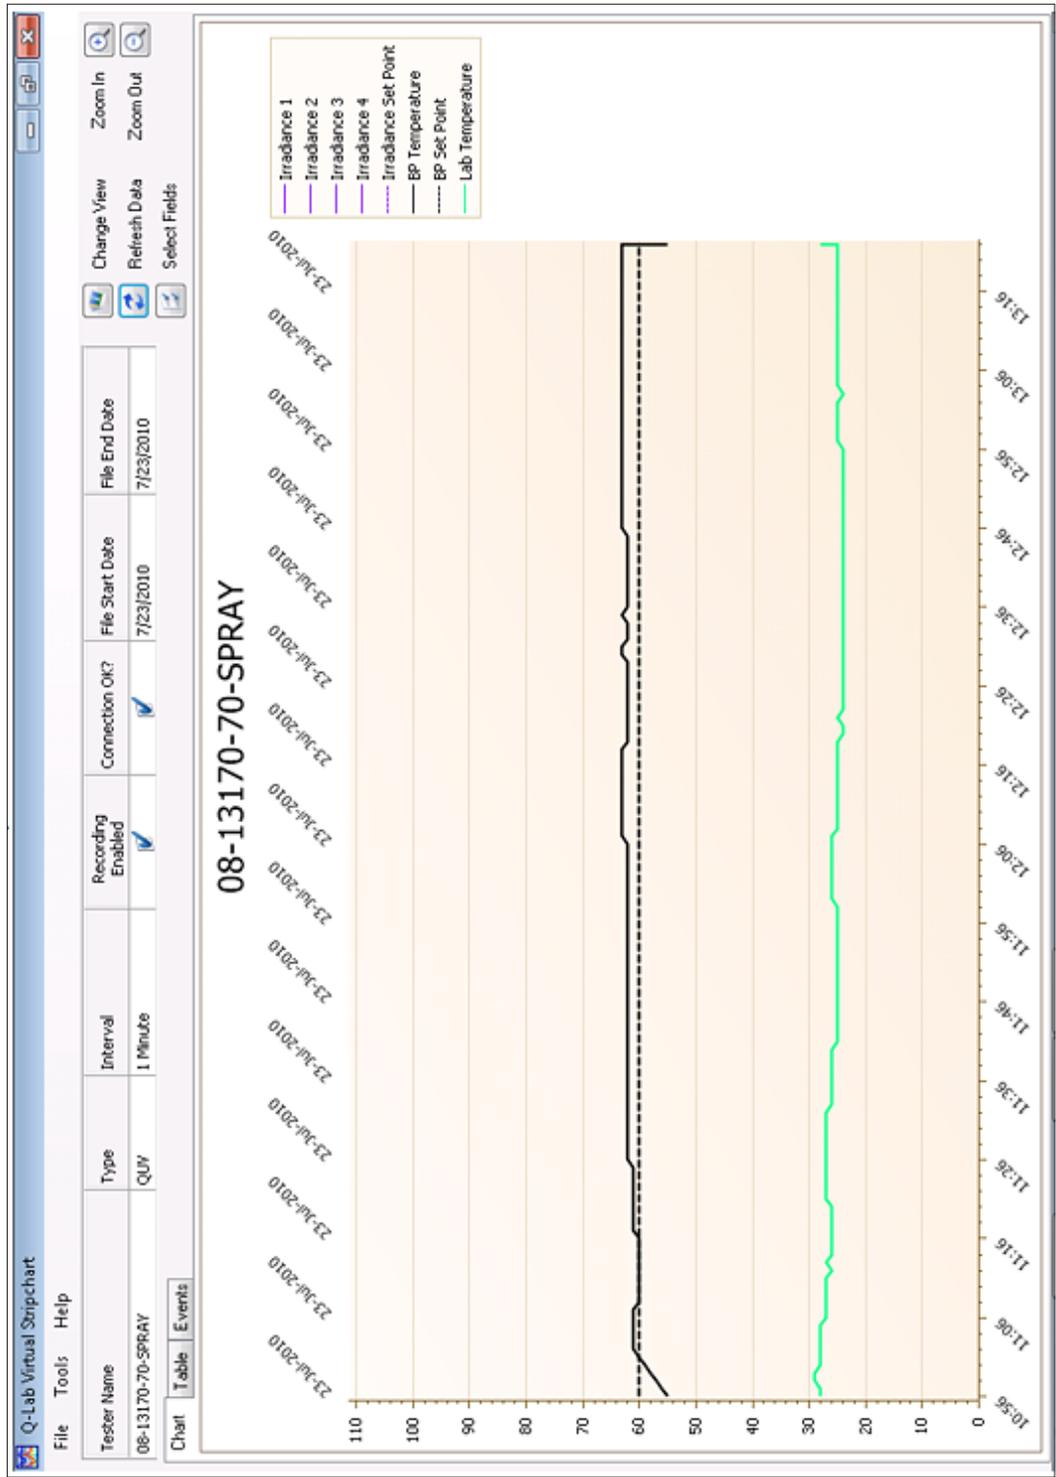

Figure 14.3g: Stripchart view of QUV operational data.
- The exported files (Figure 14.3e and Figure 14.3f) can be uploaded to the Q-Portal Asset Center where customers can view basic operational data (Figure 14.3g and Figure 14.3h) and Q-Lab personnel can view extended operational data.